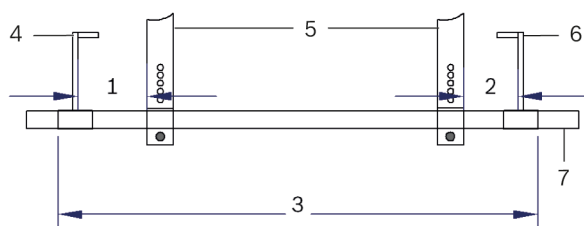

Figure 2: Distances holders
- ▶ Do not exceed the maximum load capacity in accordance with the "Load capacity of the tools" table and observe the distance measurements in Figure 2.
- ▶ Use the traverse T40092/1 only in connection with the two counter bearings T40092/2 and T40092/3. The supports T40091/2 are supported on the traverse (Figure 2).